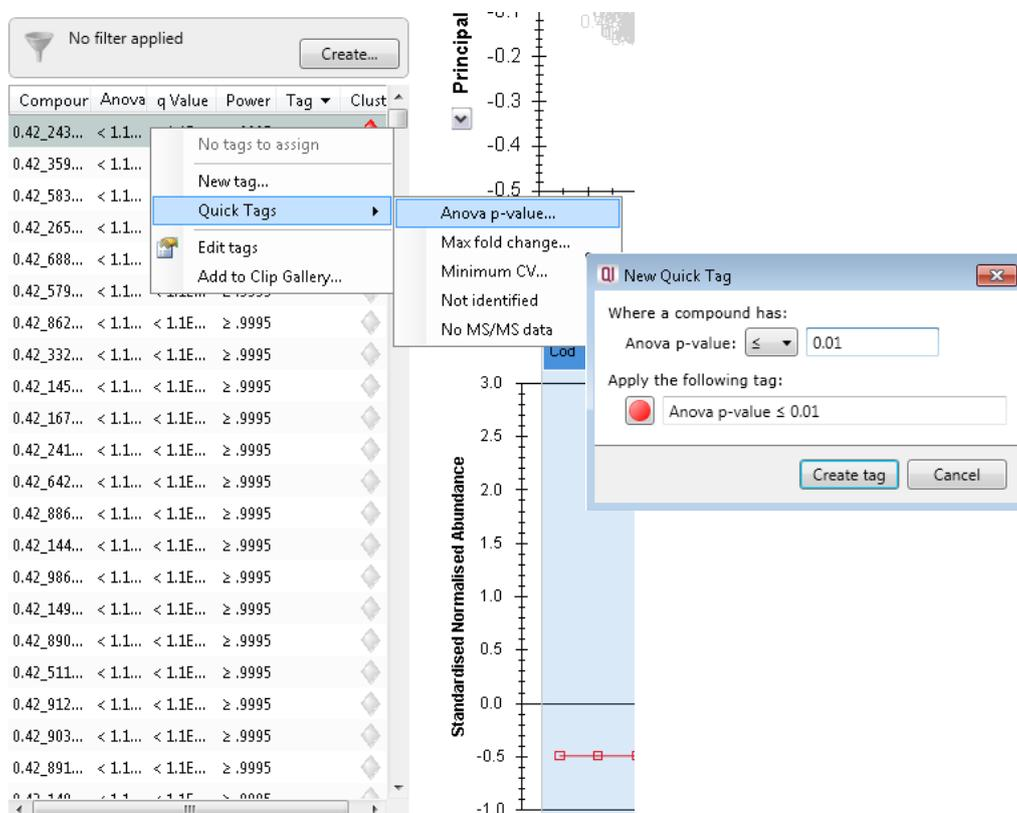

Figure 17: Compounds whose mean normalised abundances differ significantly between the groups can easily be tagged for reference.
5. To quickly select the compounds that are significantly different across the groups, and mark them for potential identification, right-click on this table and use **Quick Tags > ANOVA p-value...** to apply a tag label at any level you desire (Figure 17).